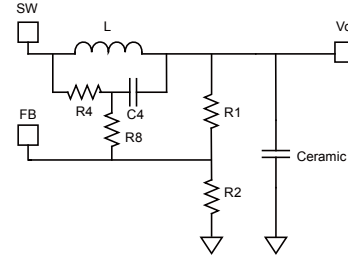

Figure 11: Simplified Circuit of Ceramic Capacitor
The output voltage is influenced by V_{RAMP} beside the R divider (see Figure 11). V_{RAMP} can be calculated with Equation (5) on page 14. R2 should be chosen carefully, as a small value for R2 will lead to considerable quiescent current loss while too large a value for R2 will make the FB noise sensitive. Use a comparatively larger R2 when V_o is low (e.g. 1.05V), and a smaller R2 when V_o is high. The value of R1 can then be calculated with Equation (14):